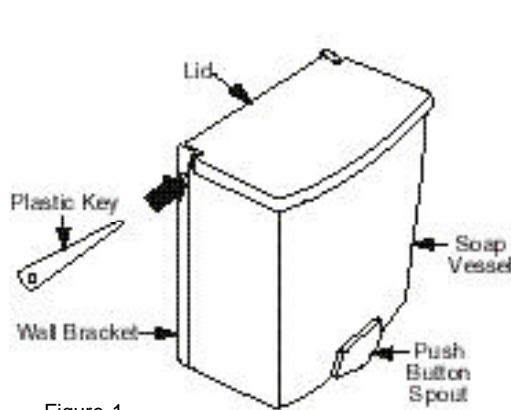

Figure 1
1. Using the Plastic Key, push the concealed sliding latch as shown in Figure 1. The lid will automatically pop forward.